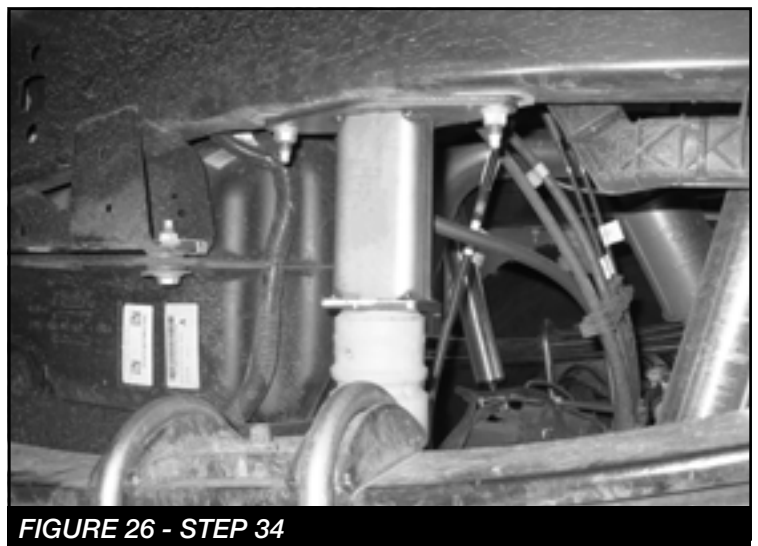

FIGURE 26 - STEP 34
34. **(5" BLOCK)** Remove the rear factory shocks, ubolts and blocks. Locate and install the 5" rear lift blocks (FTBK53) using the supplied u-bolts, nuts and washers. Align axle, lift blocks and springs and torque to U-Bolts to 170 ft-lbs. Remove the factory rear bumpstop assemblies from the frame. Save hardware. Remove the foam bump from the mount plate. Install the factory foam bumpstop to FT30891 (Bumpstop bracket) Torque to 40 ft-lbs. Then, install the assembly to the frame using the factory nuts. Torque to 70 ft-lbs. **SEE FIGURE 26**